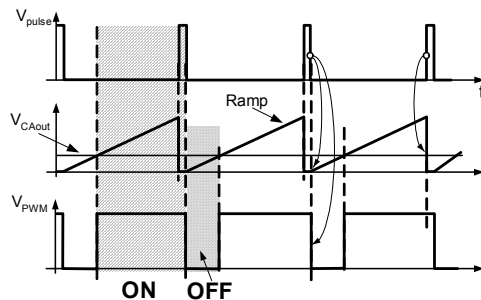

Fig. 10. Achieving zero "OFF" time.
The operating frequency of the GPTC110XX is set internally to 100kHz by an internal oscillator which generates positive pulses ( $V_{pulse}$ ) (Fig. 10).
As shown in Fig. 10 the positive-going edge of the pulse discharges the ramp signal to zero in every cycle. The next cycle is initiated by the negative edge of the pulse. Once this happens, the driver is set to its off state and the ramp starts rising with the slope determined by the VEA.
As one can see from Fig. 10 the ramp signal starts rising at the beginning of the "off" time. Consequently  $D_{off}$  can be essentially zero, as required by (2).